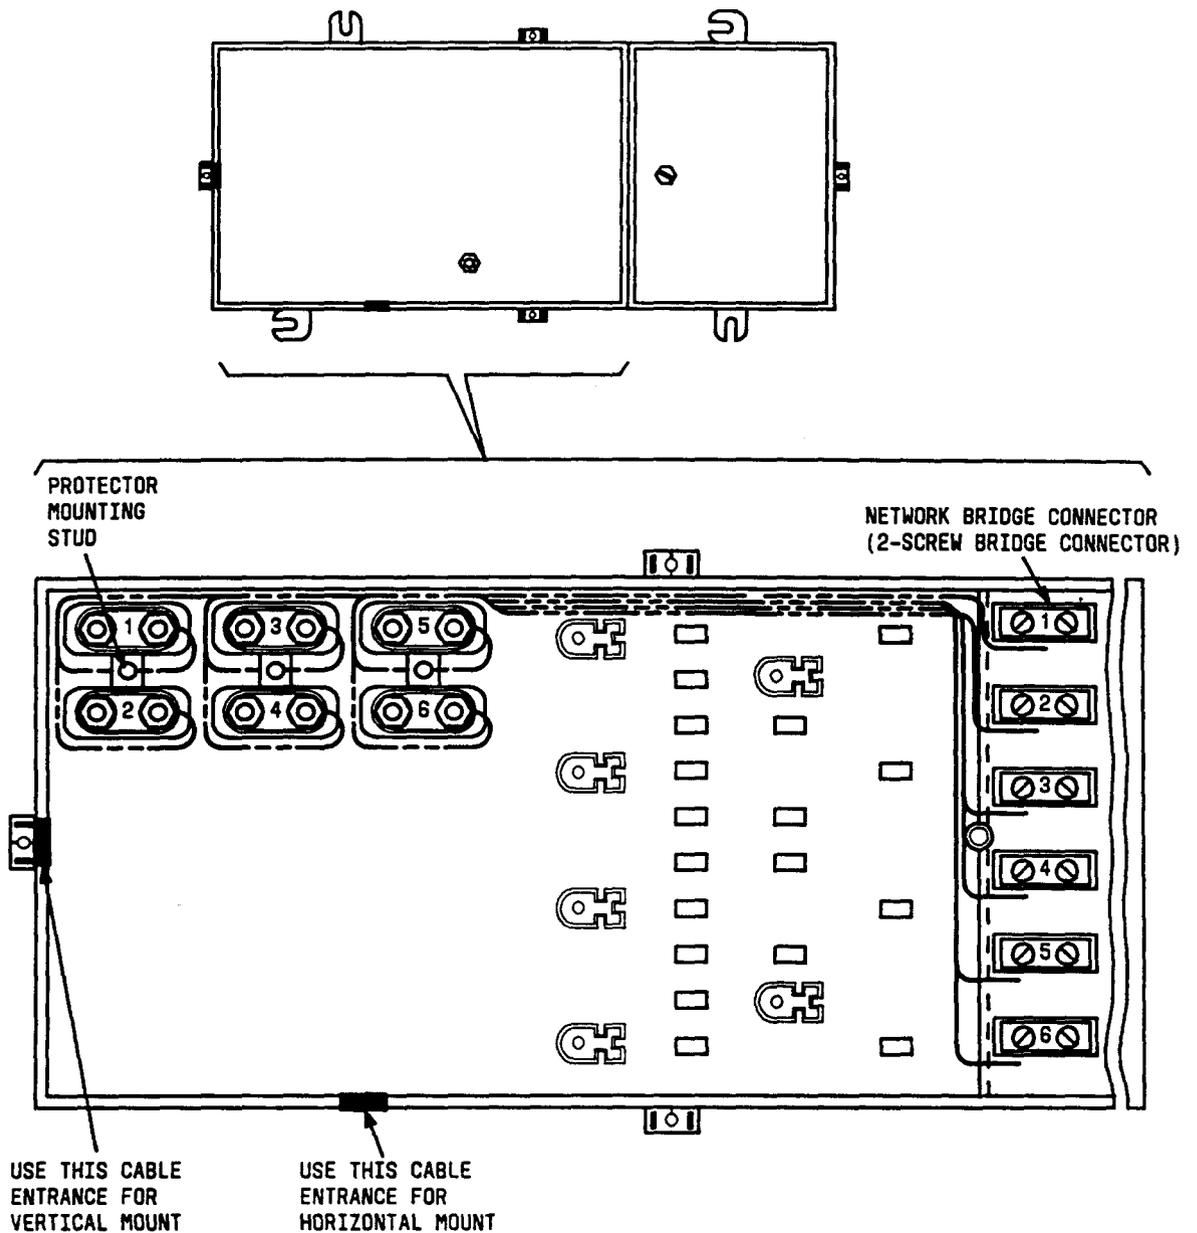

Fig. 8—Installing the 125-Type Protectors — 6-Pair Configuration — Horizontal or Vertical Mount
5.05 To install the 125-type protector — 6-pair configuration in a horizontal or vertical mount (Fig. 8) use the following procedure
(1) Open customer access cover.
(2) Open telephone company access cover using a KS-19192, L1 wrench.
(3) Locate protector mounting studs as shown.
(4) Mount 1st through 6th protector as shown in Fig. 8 and on telephone company access cover.
(5) Route wire from the network bridge to the protector binding posts as shown.